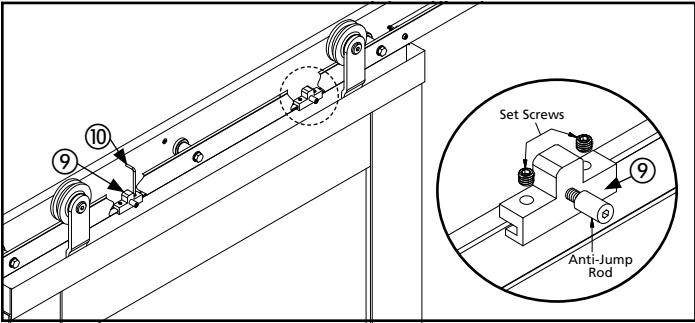

Figure 24. Trigger Installation
- 5. Secure the triggers ⑨ in place with the set screws using the supplied 3mm Allen wrench ⑩ as seen in Figure 24.